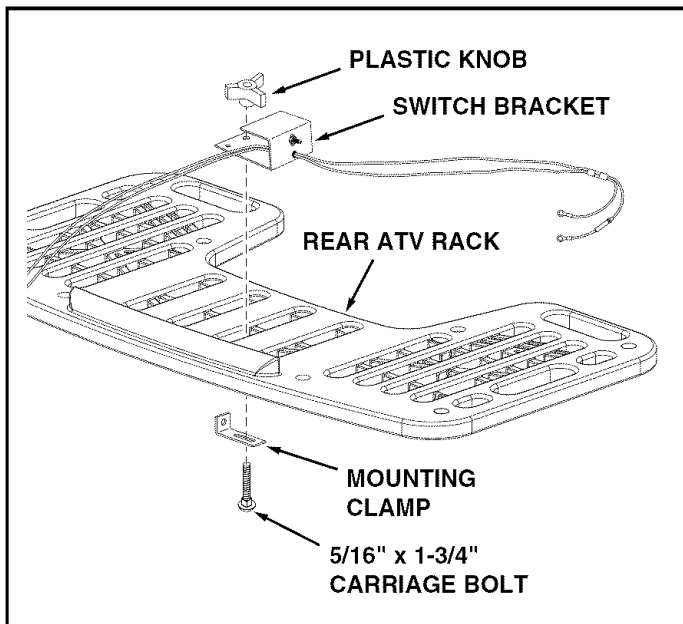

FIGURE 16
30. Attach the sprayer to the vehicle hitch and then attach the switch bracket to the rear rack of the vehicle. Use the plastic knob, mounting clamp and 5/16" x 1-3/4" carriage bolt. See figure 16.